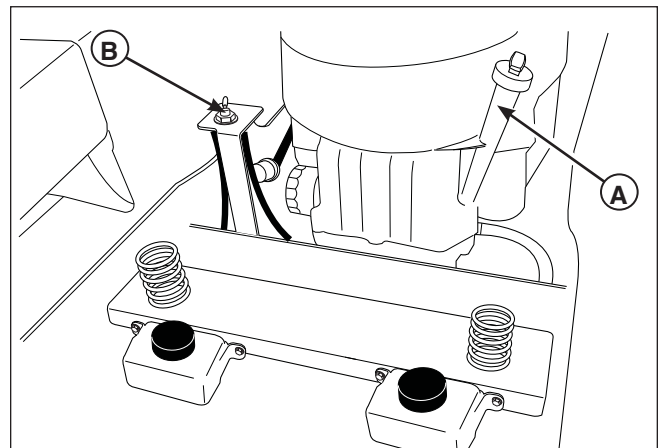

Figure 3. Checks Before Starting
- Check that crankcase is filled to full mark on the engine oil dipstick (A, Figure 3). See the engine Operator's Manual for instructions and oil recommendations.
- **Models with two fuel tanks:** Make sure the fuel selector valve (B) is in the "ON" position.